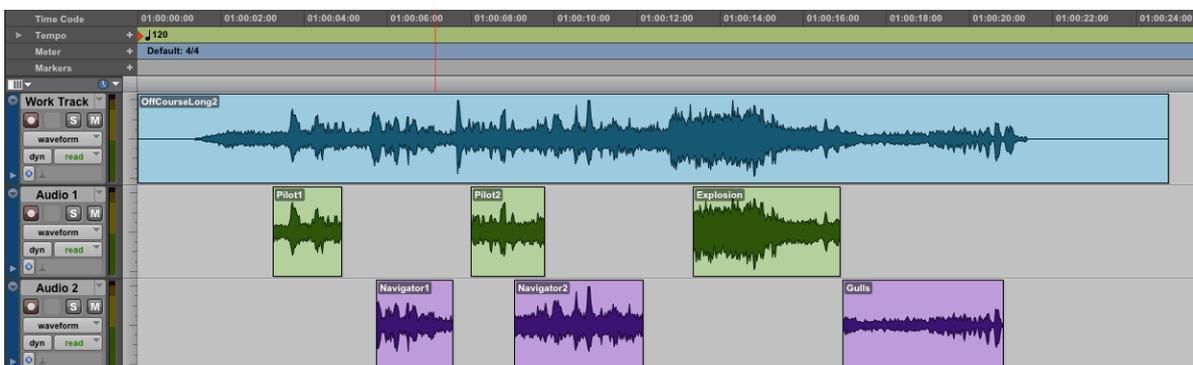

Figure 23 ProTools session display after Fix Sync operation
- If you are following the example, start Pro Tools and open the output session 'FX Fix Sync Example 1 (T4)'. The output session from the example, should look as shown in Figure 23.